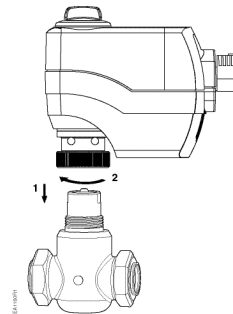

Figure 3. Coupling Actuator to Valve.
5. Loosen the actuator coupling on the valve (Figure 3, reverse No. 2).
10. Place the actuator on the valve and firmly hand-tighten (Figure 3).